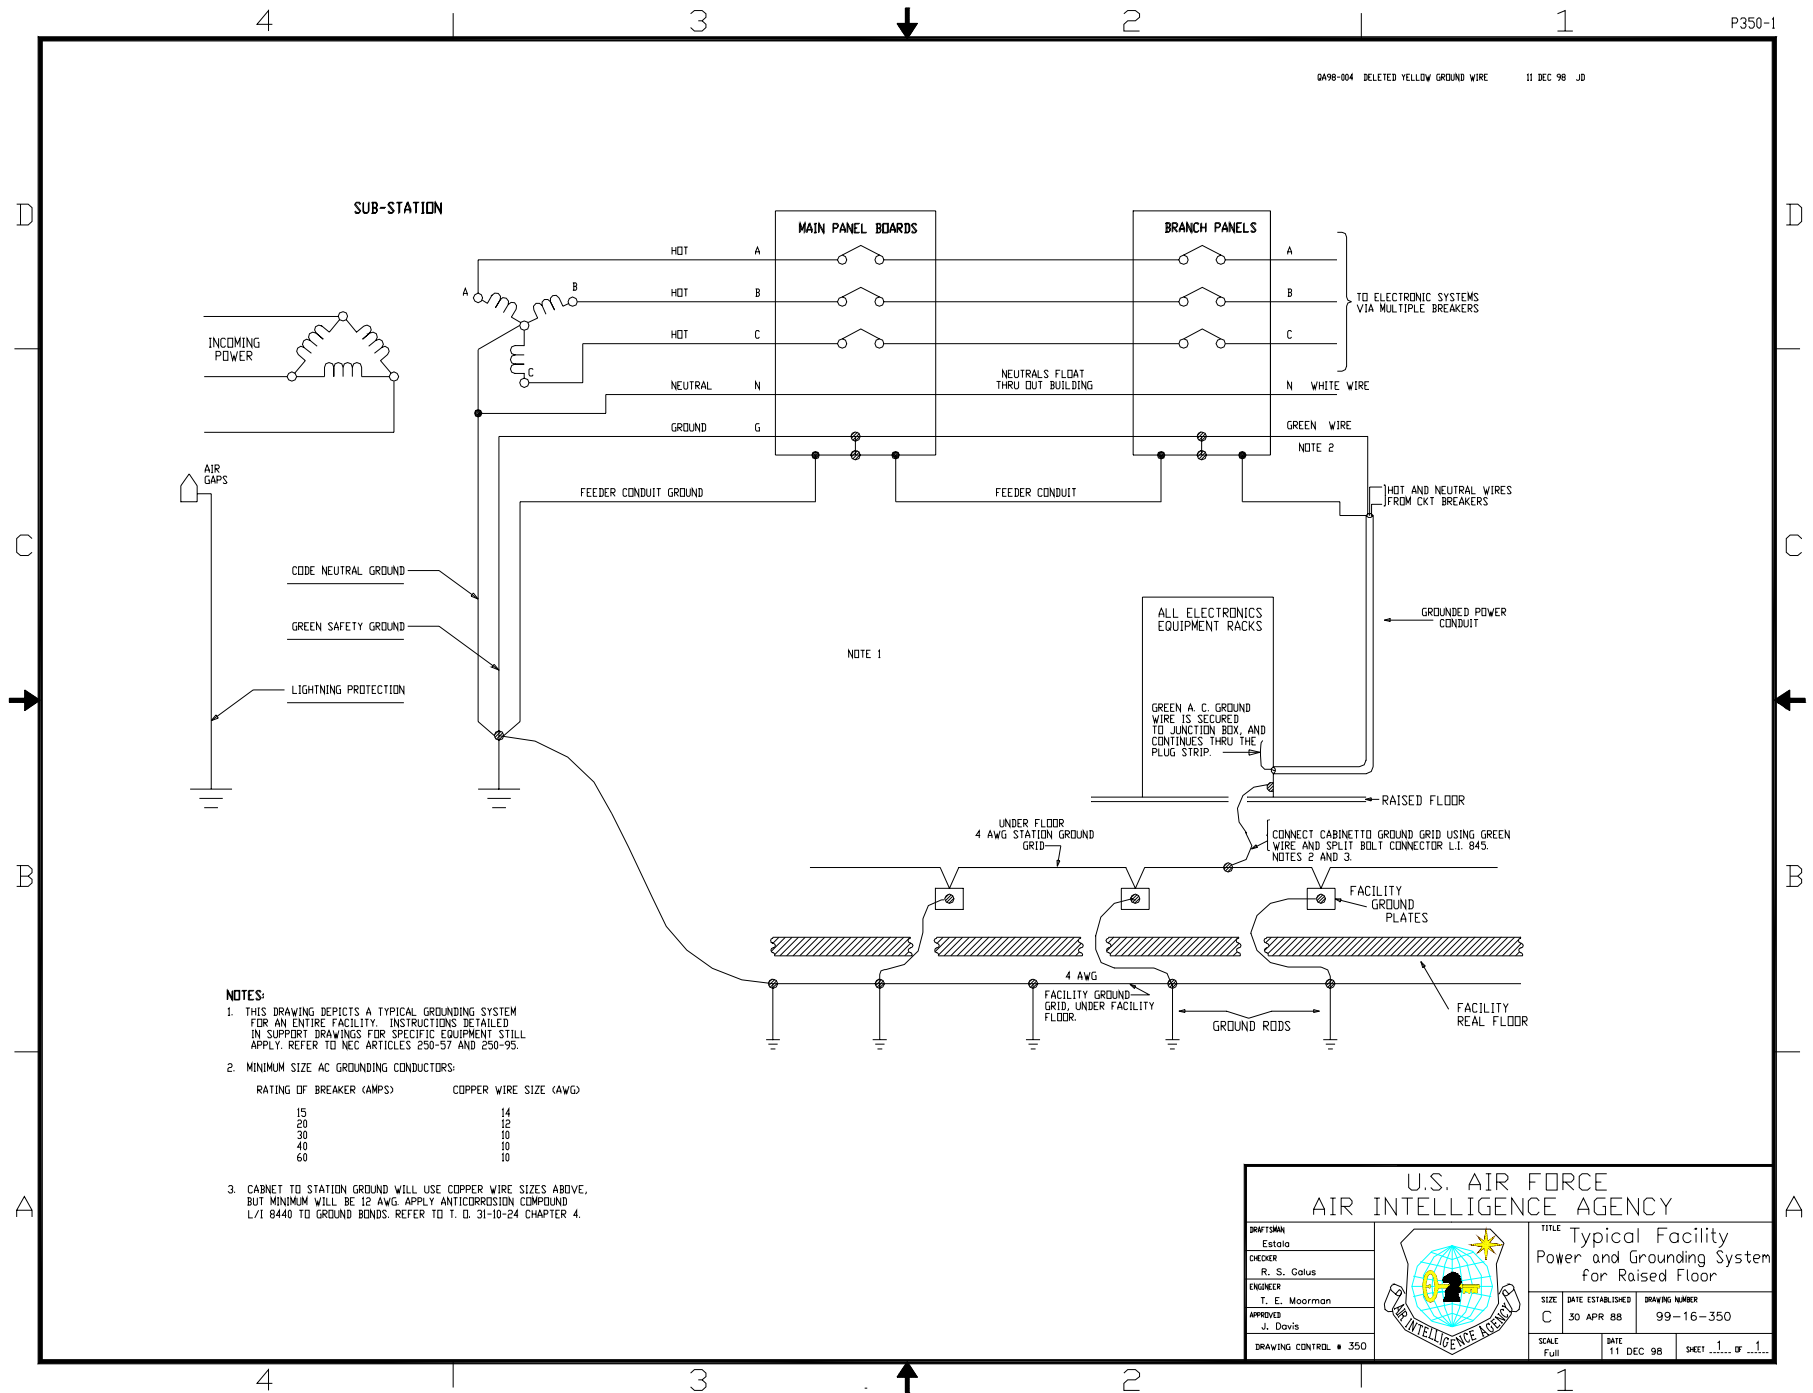

FIG 1
3. DRILL ONE 1/8 INCH HOLE 1 7/8 INCHES FROM BOTTOM OF THE FIRST OUTLET. DRILL ONE 31/64 INCH HOLE 1 1/2 INCHES FROM BOTTOM OF THE FIRST OUTLET. MOUNT SWITCH (LI-993) AND LOCKING WASHER (LI-562) AS SHOWN IN FIG. 1. THIS SWITCH IS OPTIONAL. DO NOT DRILL HOLES IF SCHEME DOES NOT CALL FOR IT.
4. TO SECURE PLUG-STRIP TO THE RACK (TOP AND MIDDLE FRAME STRUT), DRILL TWO #9 HOLES IN THE REAR COVER AS FOLLOWS: FOR XFR317019 (LI-3038) AND XFR317024 (LI-3043) RACKS DRILL ONE HOLE, 1 3/8 INCHES FROM EACH END (TOP AND BOTTOM). FOR XFR317819 (LI-62) DRILL THE MOUNTING HOLE 1 1/8 INCHES FROM EACH END, FOR XFR314919 (LI-3060) DRILL TOP HOLE 1 3/8 INCHES FROM END AND BOTTOM 11 7/8 FROM END. SEE FIG. 1. SEE SHEET 1 FOR PLACEMENT IN THE RACK.